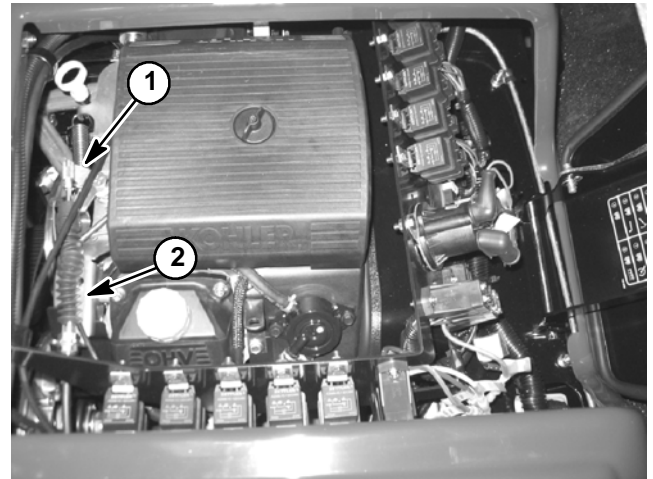

Figure 1
2. Raise seat to gain access to engine speed control (Fig. 1).